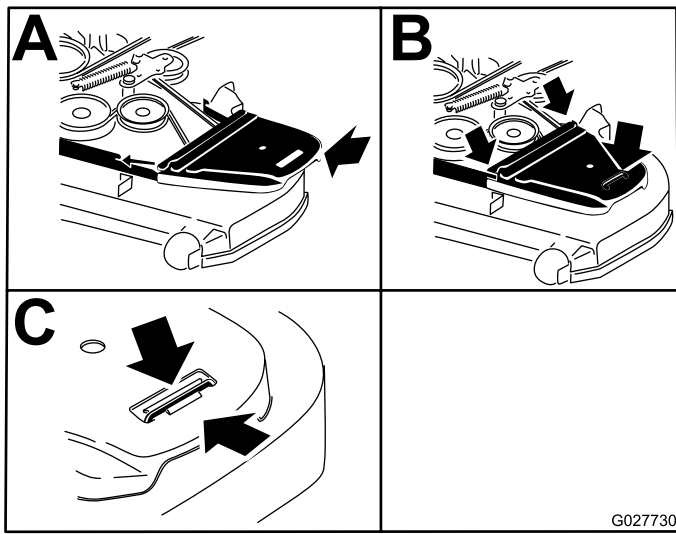

Figure 90
12. Install the belt covers (Figure 90).